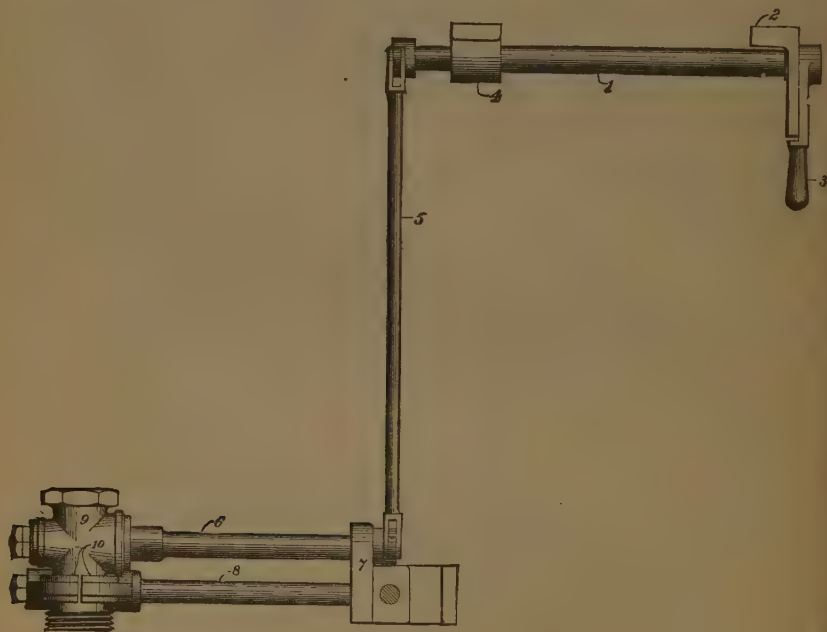

Fig. 44. Feed-water Work.
A. By a feed-cock in the suction-pipe, regulating the amount that can pass to the pump (see figures 44 and 45); also by the valve opening from the tank to the tender-hose.